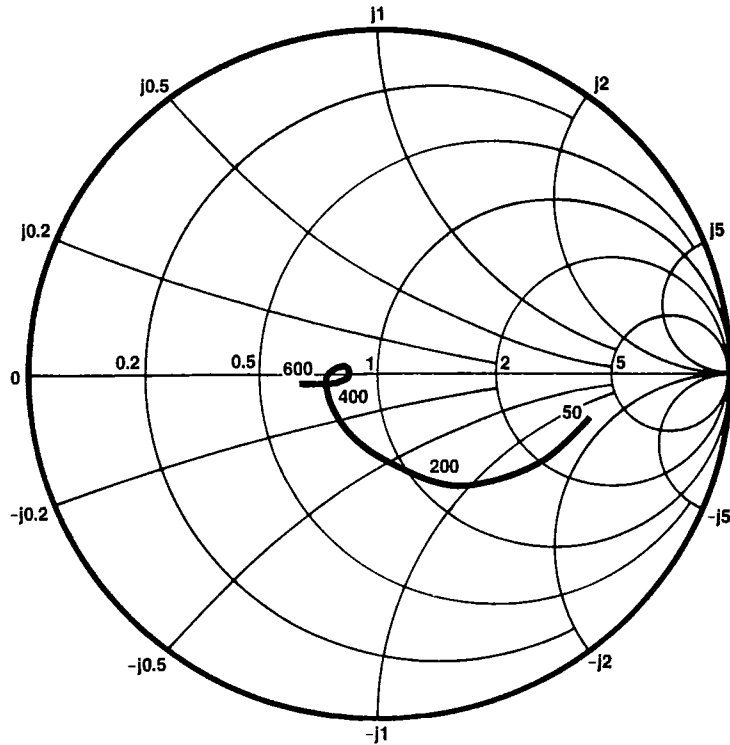

Fig.4 Typical input impedance. Test conditions: supply voltage 5.0V, ambient temperature 25° C, frequencies in MHz, impedances normalised to 50 ohms.
5. Input impedance is a function of frequency. See Fig.4.